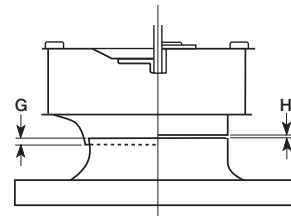

Figure 13 - Wheel Overlap and Gap Dimension
1. Check all fasteners and set screws for tightness. The wheel should rotate freely and be aligned as shown in *Figure 13.*